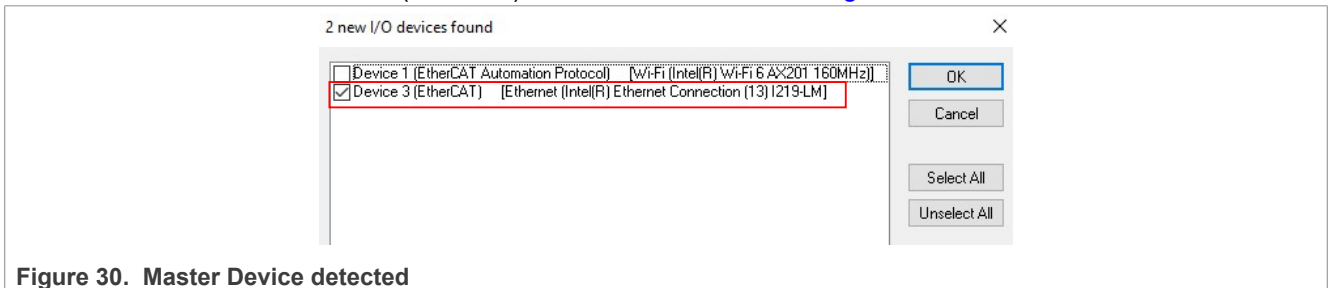

Figure 30. Master Device detected
8. The EtherCAT master device (Device 3) is detected, as shown in Figure 30.